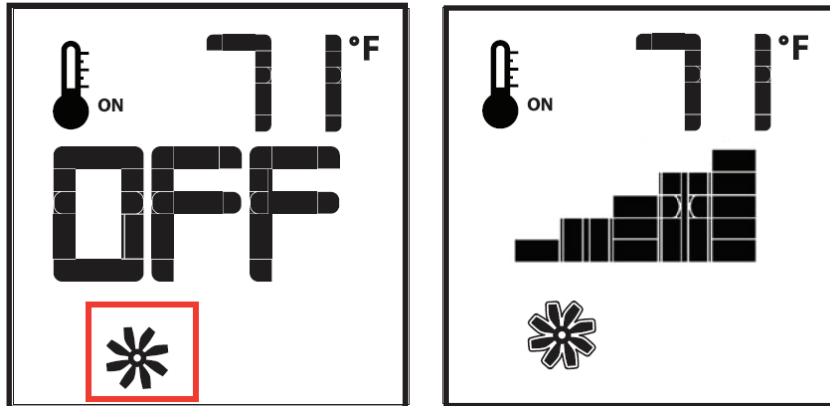

Figure 13: Fan control
If the Heater is equipped with a hot air circulating fan, the speed of the fan can be controlled by the Proflame 2 System. The fan speed can be adjusted through six (6) speeds. To activate this function use the Mode Key (Figure 1) to index to the fan control icon (Figure 13). Use the Up/Down Arrow Keys (Figure 1) to turn on, off or adjust the fan speed (Figure 13). A single “beep” will confirm reception of the command.